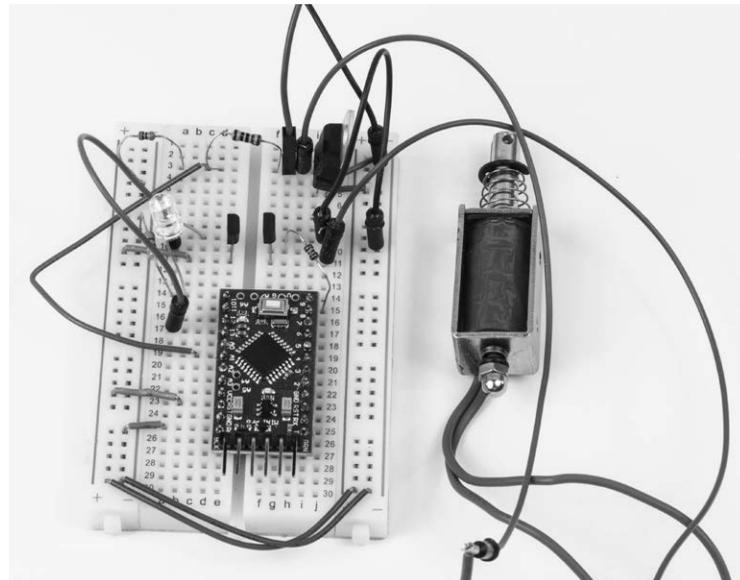

Figure 6-7: The breadboard I used to test the Battery Saver concept and put the software together. Testing your circuit with a solenoid is not required.
One solder lug (If you can't find one, you can work around it by taking the power wire from the Arduino and wrapping it under the head of the screw, as shown in Figure 6-7.)
Even though this project doesn't require a lot of extra components and peripheral equipment, I still believe it's useful to go through the exercise of wiring a breadboard. A working prototype gives a definitive proof of concept, and it allows you to play with the hardware and software prior to committing to the finished version. When working with the breadboard, I tested the circuit with a solenoid similar to the one used in the finished product (see Figure 6-7).
itself (see Figure 6-7), you can connect a lamp, LED, relay, or some other component in place of the switch. Remember: if you use an LED or other polarized device, make certain to get the polarity correct.
5. Insert the Pro Mini microcontroller board in the breadboard. Its position is not critical; anywhere in the general vicinity of where it is in Figure 6-7 is fine.